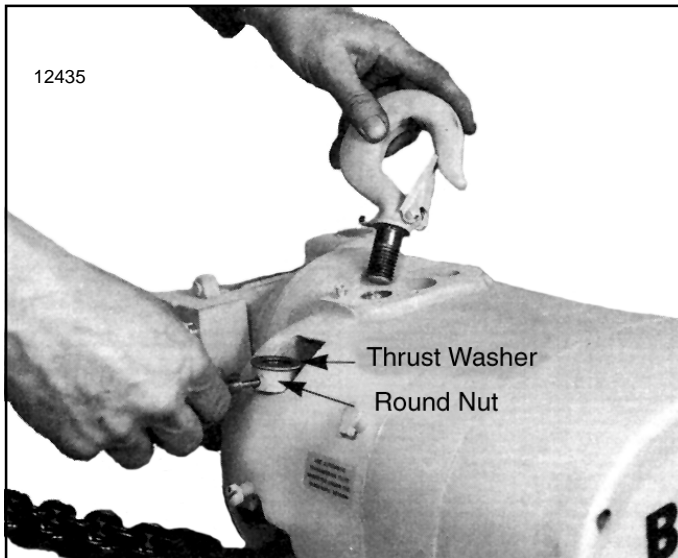

Figure 7-17. Removing Suspension Lug (Single Reeved Model)
(1) On single reeved models drive grooved pin from the round nut inside the hoist frame. Hold round nut from rotating with drift punch through access hole in side of hoist frame. Unscrew suspension stud assembly by wrenching hex on top of suspension lug (see Figure 7-17).